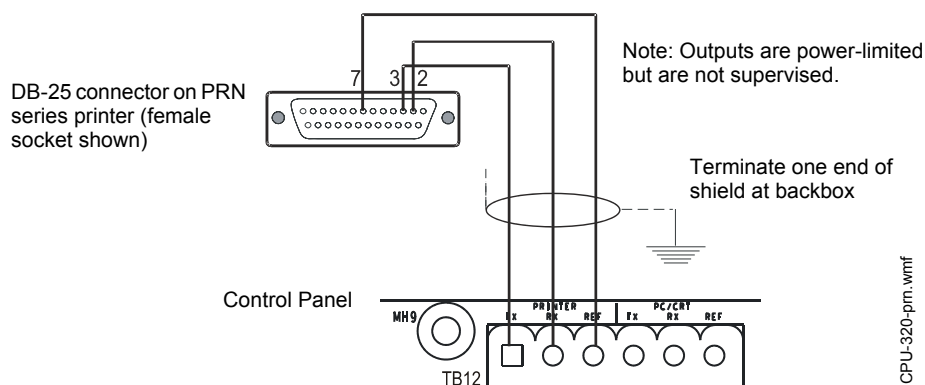

Figure 3.15 Remote Printer Connections
1. Connect the three (3) open leads of the custom cable to the TB12 terminal block on the control panel as shown in Figure 3.15.